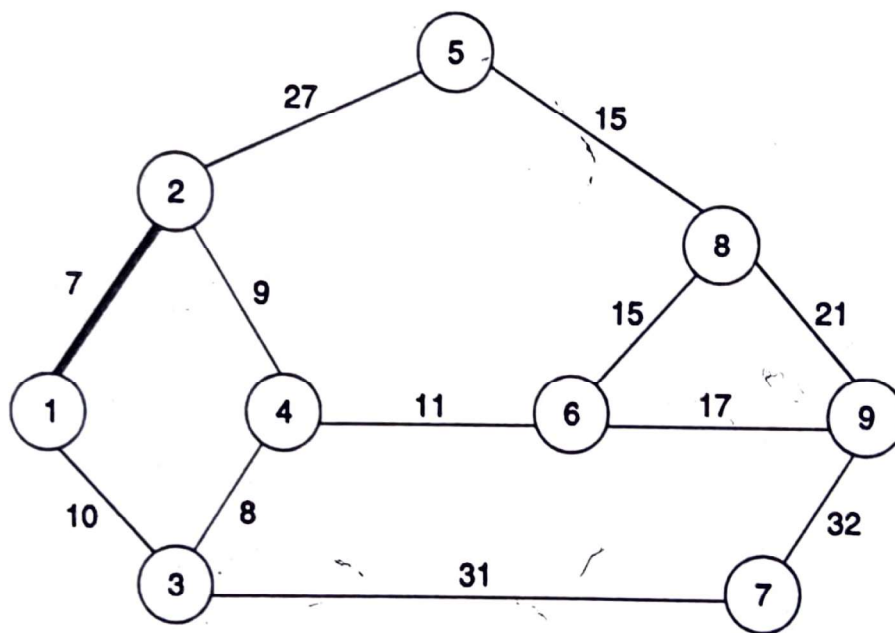

Fig. 5.5 Network showing partial solution.
Step 2: In Fig. 5.4, the smallest distance (X) is 7 and the corresponding node (L) is 2. Since the Node 2 is a neighbour of the start node, thicken the arc 1-2 as shown in Fig. 5.5.